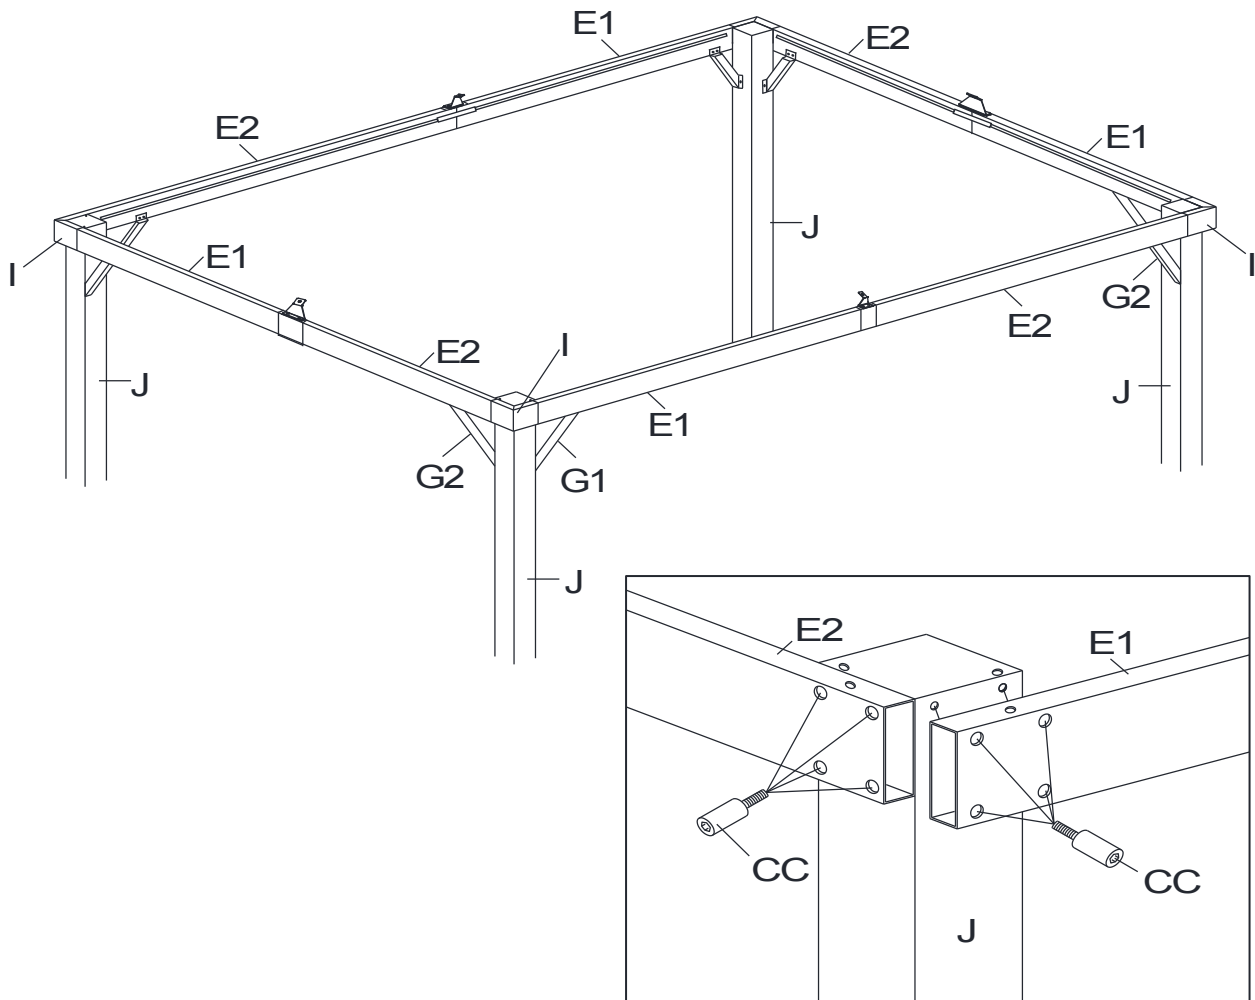

Fig.4
4. Attach the Left Lintel (E1) and Right Lintel (E2) to Post (J) with Bolt (CC). See Fig.4.